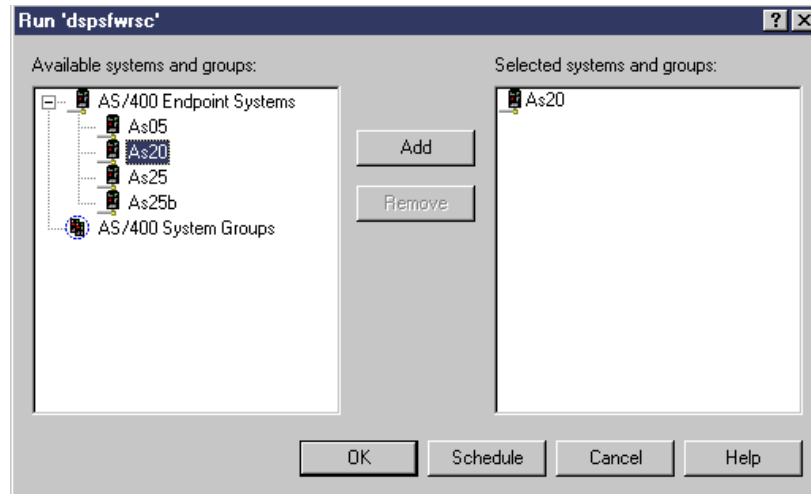

Figure 131. Run display
2. Right-click on an existing command shown in the right-hand panel and select **Run**. A screen appears similar to the example shown in Figure 131 on page 167.